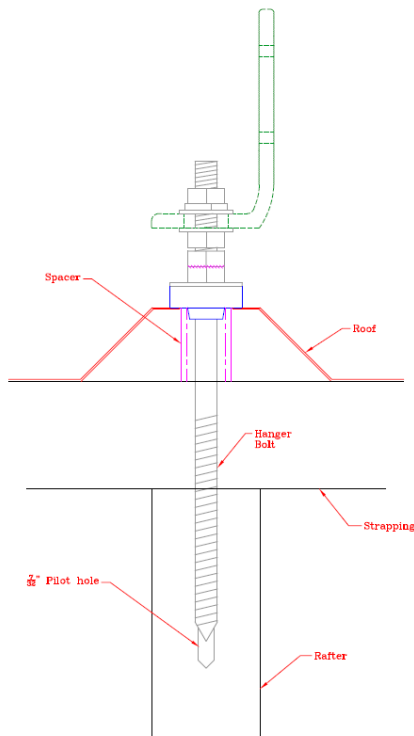

Figure 29 Hanger Bolt Ridge Installation
- i. When installing into the raised portion (Figure 29 Hanger Bolt Ridge Installation) of the roof drill a $\text{Ø } 3/4$ " hole into the steel portion of the roof only.